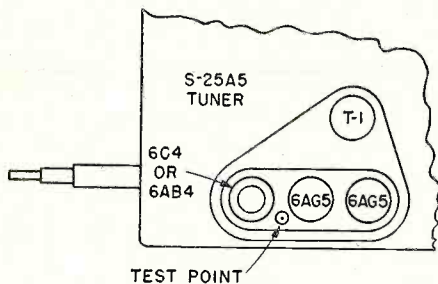

Fig. 1. Test point for Montgomery Ward Models 94WG-3022A, 94WG-3026A, 94WG-3029A.
The following information supplements the Picture I-F and Trap Adjustment Alignment Table and replaces the Retouching of Picture I-F adjustments and Response curves sections. *Checking Picture I-F Adjustments*—The response curve, secured after completing steps 5 through 12 may be observed by connecting the sweep generator to the TEST POINT (as shown in Fig. 1) which is the junction of R-6 and R-7, and by connecting the oscilloscope to the junction of L-8 and R-51. The marker signal generator should be loosely coupled to the sweep generator output leads.
*R-F Response Curves*—The response curves shown in Figure 18 for the "A" Series may be observed by connecting the sweep generator and the marker signal generator (loosely coupled) to the antenna input and by connecting the oscilloscope to the TEST POINT (junction of R-6 and R-7) on the tuner as shown in Fig. 1.